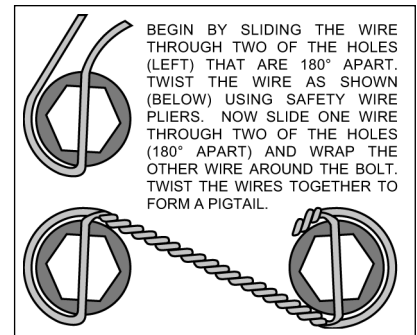

Figure 3. Safety Wire Diagram
- Install the o-ring (16) and the dust cap (15) into the hub (5). **NOTE:** O-ring (16) friction will not allow cap (15) to unscrew on its own.
- With the larger I.D. side of the rotor (8) facing away from the hat (9), bolt rotor (8) to hat (9) through the backside of the rotor using washers (10) and bolts (11). Torque bolts (11) to 85 **in-lb**. Safety wire bolts (11) using wire manufactured specifically for the purpose of securing nuts and bolts, see Figure 3.
- Slide the rotor/hat assembly over the studs (4) in the hub (5) taking care to align the small countersunk holes in the hat (9) with the small threaded holes in the hub (5). Install three flat head socket head screws (12) through the small holes in the hat (9) and torque to 85 **in-lb**.